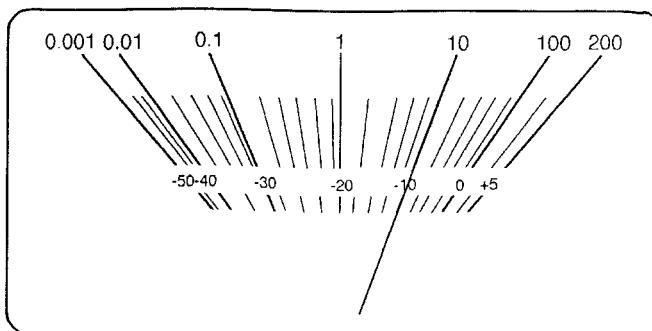

Fig. 4
- Adjust **VR909 (L-ch)** and **VR910 (R-ch)** so that the power meter indicates **10 W** (shown in Fig. 4).